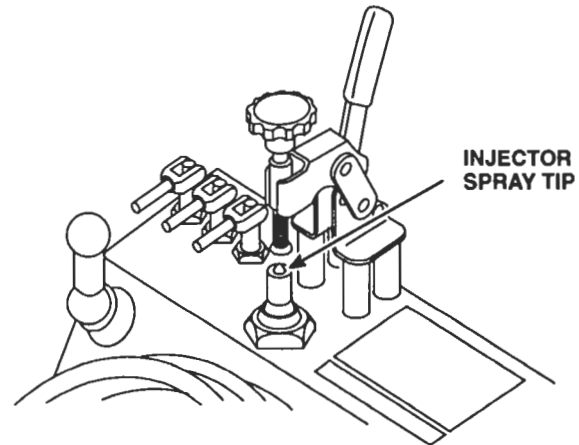

Figure 14. Spray Tip Installed in Tester
3. Remove the needle valve, if installed, and clamp the spray tip on the unit (Figure 14.)